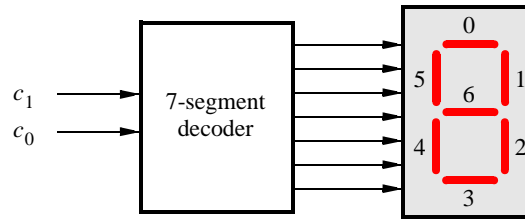

Figure 6: A 7-segment decoder.
The objective of this part is to display a character on a 7-segment display. The specific character displayed depends on a two-bit input. Figure 6 shows a *7-segment decoder* module that has the two-bit input c_1c_0 . This decoder produces seven outputs that are used to display a character on a 7-segment display. Table 1 lists the characters that should be displayed for each valuation of c_1c_0 for your FPGA board. Note that in some cases the ‘blank’ character is selected for code 11.
2. Create a Verilog module for the 7-segment decoder. Connect the c_1c_0 inputs to switches SW_{1-0} , and connect the outputs of the decoder to the $HEX0$ display on your FPGA board. The segments in this display are called $HEX0_0, HEX0_1, \dots, HEX0_6$, corresponding to Figure 6. You should declare the 7-bit port